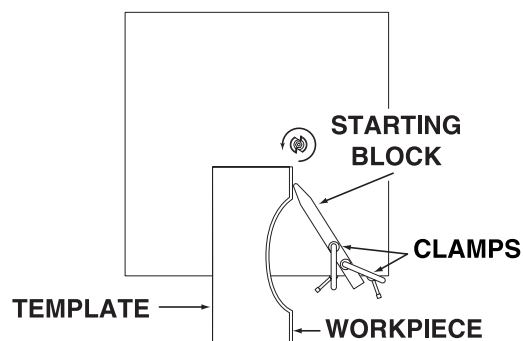

Figure 2. Start block for template cutting.
3. The fence and miter must be removed when using a template. A starting pin or block must be installed as shown in **Figure 2**.